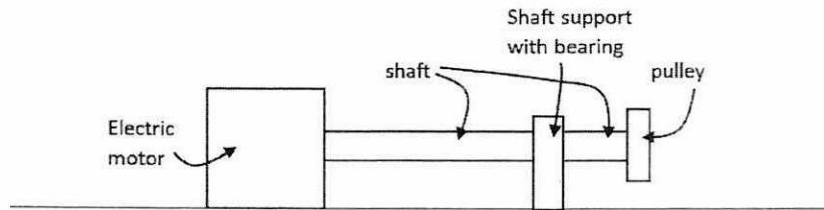

Figure Q3 (c)
- (c) **Figure Q3 (c)** shows an electric motor (power, $P = 4$ kW and rotation, $N = 200$ rpm) turning a shaft with a diameter, d . If the maximum allowable stress is $\tau_{\max} = 200$ MPa, determine the value of the shaft diameter, d . (10 marks)